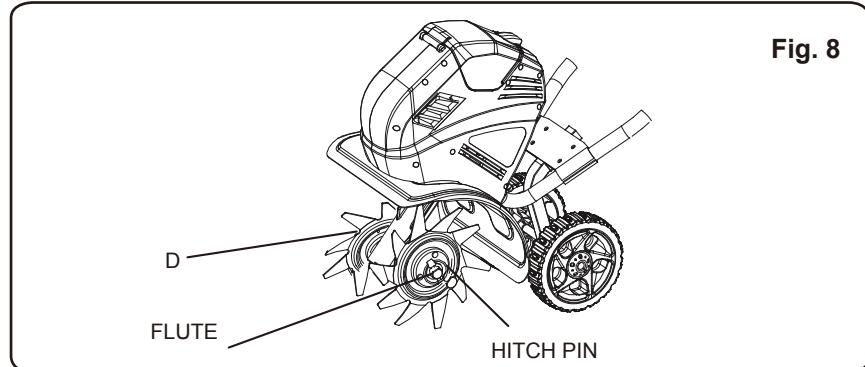

Fig. 8
INSTALLING TWO TINES FOR TILLING A NARROW AREA (See Figure. 8)
Place tine (A) onto the shaft, and place tine (D) onto the other side shaft. Insert the hitch pin into the holes in order to secure the tines to the tine shaft. (Fig. 8)